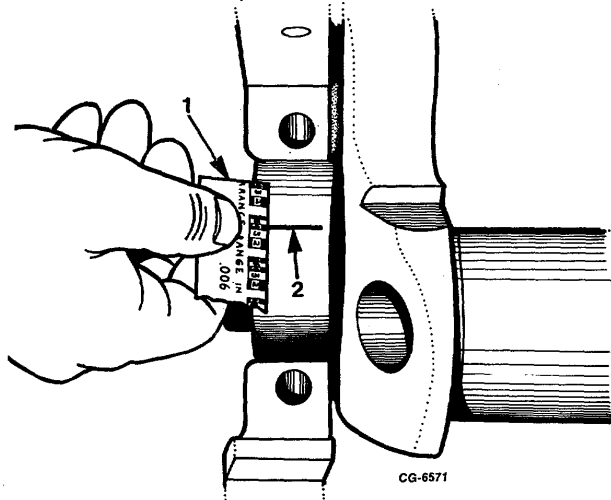

Fig. 107 Checking Main Bearing Clearance
5. Do not disturb Plastigage. Using Plastigage envelope, measure widest point of Plastigage (Figure 107). This reading indicates bearing clearance in thousandths of an inch.